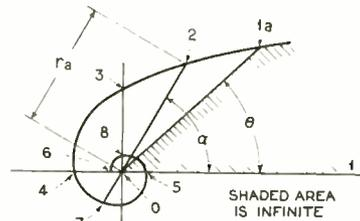
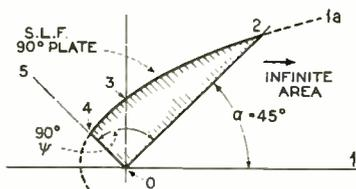

FIG. 2
FIG. 4
This is the amplification equation of the circuit of Fig. 1C, which may, therefore, be regarded as the approximately equivalent circuit of the amplifier. The manner in which the three components of the equivalent resistance vary with frequency is shown in Fig. 2, which has been calculated for a typical case. Likewise, in Fig. 3, there is shown a curve of voltage amplification, calculated by equation (8).
An inspection of Fig. 2 shows that, for values of grid-suppressor commonly used, the "true" resistance of the tuned circuit plays an important part only at the lower frequencies, and that at 1500 kc. the resistance due to the grid-suppressor and the tube impedance may be as much as four or five times the "true" tuned circuit resistance. Likewise, is small, and at high frequencies it may even be omitted from consideration in most cases.
The overall feedback increases steadily with frequency, having the effect of introducing into the tuned circuits a negative resistance, as indicated by the curve R' of Fig. 4. In that illustration, R'' represents the total circuit resistance before cascading (i.e., the denominator of equation (8), or the sum of the curves of Fig. 2), and R''' is the resulting resistance after cascading.
The peak of the curve may be made to occur anywhere within the tuning range or may even be made to occur outside of the range. As Fig. 6 indicates, reducing the grid-suppressor moves the peak slightly toward the higher frequencies. This effect is small and is of little value in design. The initial effect of cascading, however, shifts the peak considerably to a higher frequency, as can be seen by comparing Figs. 3 and 6. Increasing the mutual inductance of the transformers moves the peak toward the lower frequencies and, as can be seen by equation (8) increases the amplification as well. This may, however, require an increase of grid-suppressor in order to maintain stability, depending upon the initial margin of stability. It is possible to keep the net circuit resistance low (i.e., the R''' curve of Fig. 4), by employing loose coupling and at the same time keeping the grid-suppressor small, but the amplification will also be small. By the time the coupling has been loosened sufficiently to afford the required low resistance (or the required selectivity) the amplification will have either fallen below the commercial requirement, or the amplifier will have been made unstable in order to maintain this amplification. On the other hand, it is possible to employ a substantial coup-
If we define the "graph" 2-4-5 in Fig. 2, giving the total area from $\theta = \infty$ to $\theta = \psi + \alpha$ where $\alpha =$ angle 1-0-2 and ψ angle of plate rotation, — so that
we get a simple equation for building up the area in Fig. 2, in terms of the "zero" area, A_0 —corresponding to C_0 . We thus reach a total of 9 times this "area" by adding the plate-area calculated from equation (2)—which is, of course, 8 times this "zero" area A_0 .
Now since the plate area plus the fictitious "area" A_0 is proportional to total capacitance, it must operate between an initial angle α and a final angle $\alpha + \psi$ on the curve in Fig. 2 and we must allow the "zero" capacitance, which is mostly outside of the condenser plates, to equal the capacitance corresponding to the highest frequency covered by the S.L.F. range.
Since in Fig. 2 we have a curve whose area is swept out by the radius vector O-2 as defined by equation (1), and since this radius vector covers a
Here the interest for the practical engineer is in the simplicity of this "reverse" method. We know that Fig. 2 is the curve given by equation (1). As the radius vector starts from the initial line O-1 and traces out counterclockwise, the area bounded by the spiral 1a-2-3-4-5-6-7-8-6, etc. its angular displacement θ varies from $\theta = 0$ to $\theta = \infty$.
vector in Fig. 2 which gives, say, at 0-2, the longest radius to be used in the plate. In other words, if we cut the curve 1a-2-3-7-5 so that the rotor plates have 180 degrees of relative angular motion, we can select the correct initial edge line 7-0-2, in advance for this purpose as follows— noting that the “area” 1-5-0-2-1a can not be used; as it is infinite.
Equation (7) means that, since $\psi = 180$ degrees and $g = 4$, $\alpha = 60$ degrees or the angle 1-0-2 in Fig. 2 must be 60 degrees to determine the longest radius 0-2 of the movable S.L.F. plate.
longest edge 0-2. In Fig. 4 a 90-degree plate is used with the same frequency range and, therefore, $\alpha = 45$ degrees, to get the longest edge 0-2.
It must now be obvious that the area of the condenser plate curve in Fig. 2 if taken from $\theta = \alpha + \psi$, where the capacitance area is least, to $\theta = \infty$ where it is zero, covers all of the stray capacitance in the set. To